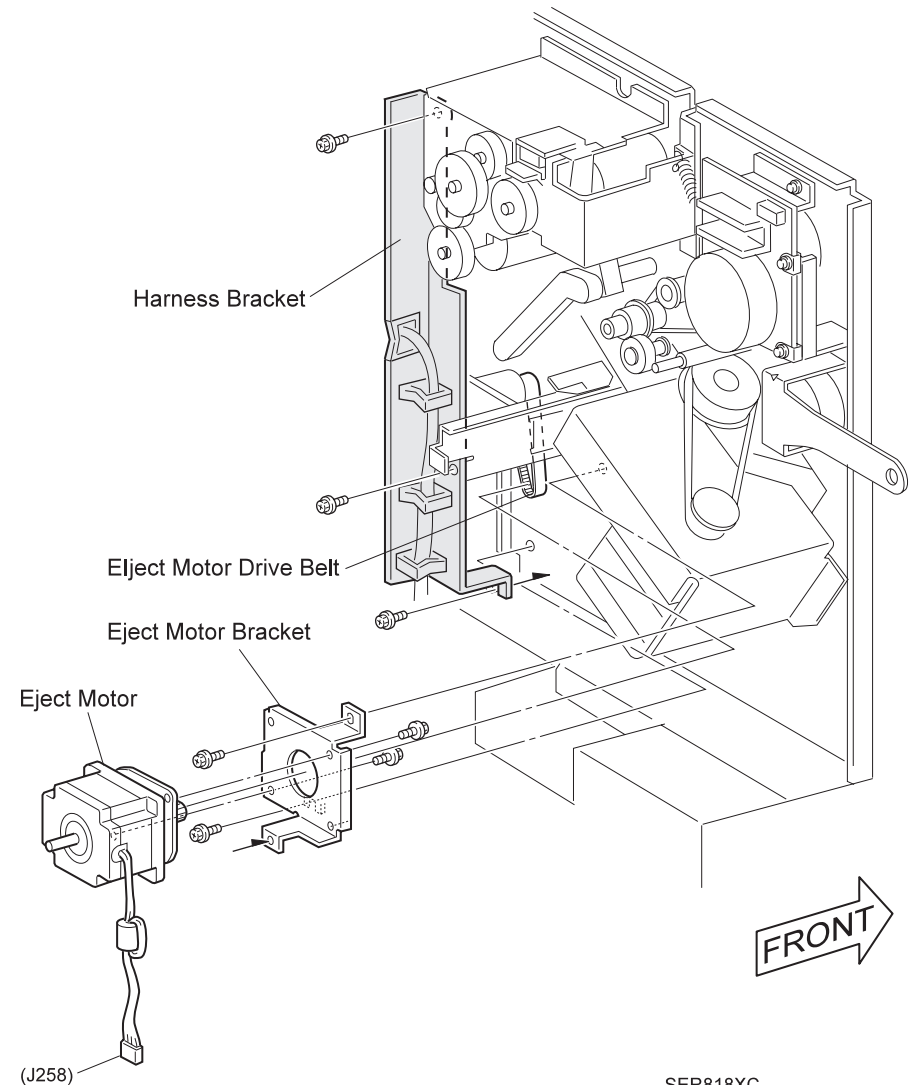

Figure 3-80. Eject Motor
1. Install the Eject Motor to the Eject Motor Bracket as shown in the Figure 3-80.